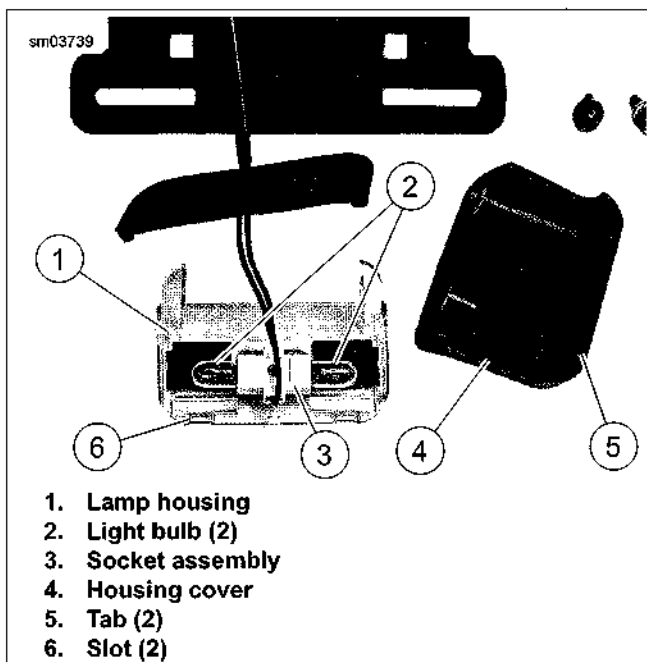

Figure 6-57. Replacing License Plate Light Bulbs: XL 883N, XL 1200X/V (HDI)
12. See Figure 6-57. If replacing a light bulb (2), gently pull bulb straight out of socket assembly (3). Push new light bulb into socket.